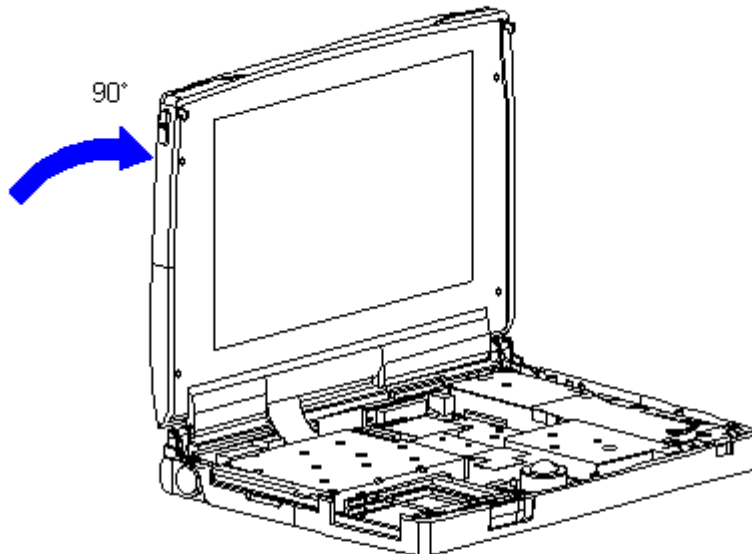

Figure 5-120. Opening the Display
29. Open the display to a 90-degree angle (Figure 5-120).